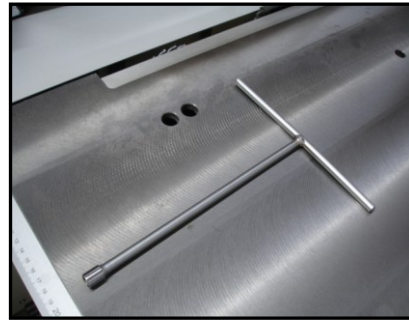

Fig. 31
2. Place the flat belt on the scoring blade arbor (Fig. 31), lift the scoring motor and slide the flat belt over the scoring motor pulley. (Option)
\* Fix the saw blade by T Tool. (Fig. 31)